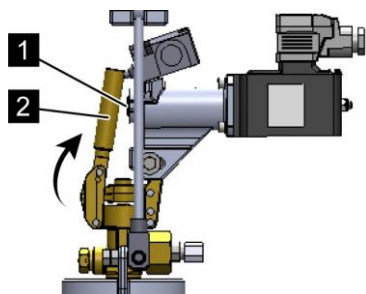

Fig. 135: Close valve
2. → By turning the adjustment wheel, push the release pin of the clamping device far enough into the housing that the locking bolt (Fig. 135/1) can be pushed in the opposite direction and lock the release pin.
3. → Swing the valve lever (Fig. 135/2) upward (Fig. 135/arrow).